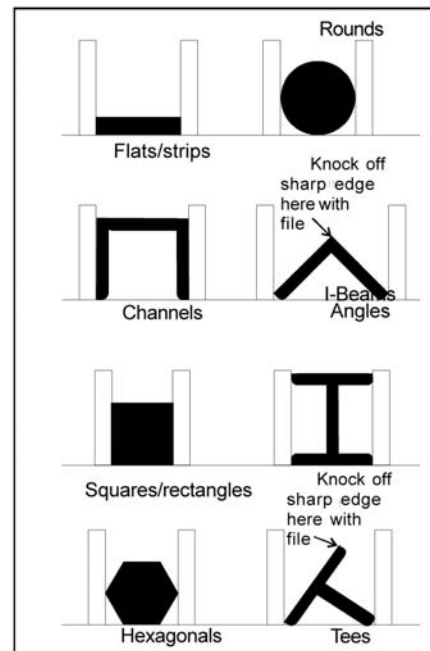

Figure 9: Placing workpieces in vise
3. Clamp the workpiece in the vise. (See Figure 9 for examples of workpieces in the vise.)